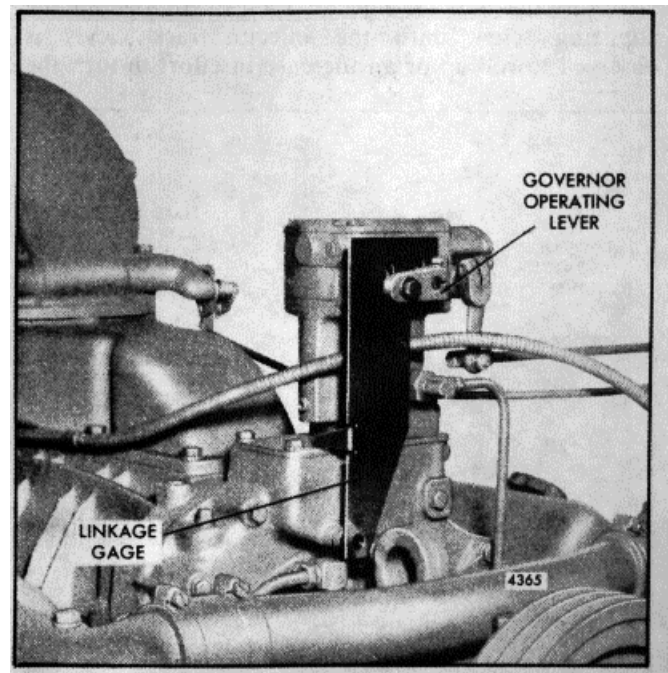

Fig. 5. - Governor Operating Lever in Position
13. Replace the governor operating lever on the serrated shaft so that the bolt hole is lined up within the proper lines on the gage (Fig. 5). The type of governor (SGX or PSG) will determine the proper position of the lever.